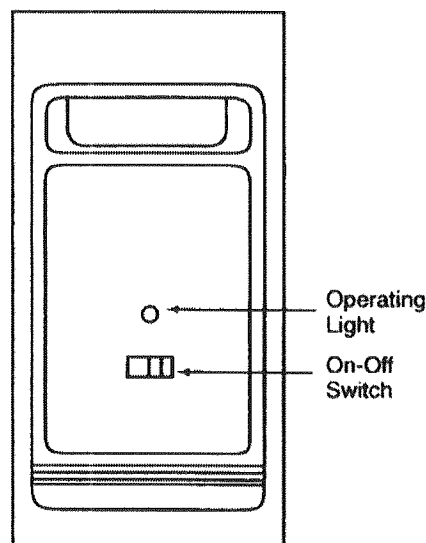

Figure 21
1. With the 120 VAC power turned on at the circuit breaker for the furnace, push the air cleaner ON-OFF switch to the "ON" position (Figure 21).
2. Push the ON-OFF switch on the power pack to the "OFF" position (Figure 21). Wait 15 seconds and both the power pack and the collecting cell(s) will be automatically discharged.